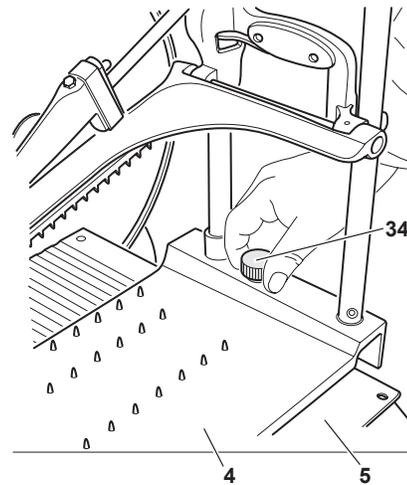

Figure 17-4
- Tighten knob (34) on product holder (4) to secure product holder and pusher (3) to carriage (5) (Figure 17-4).